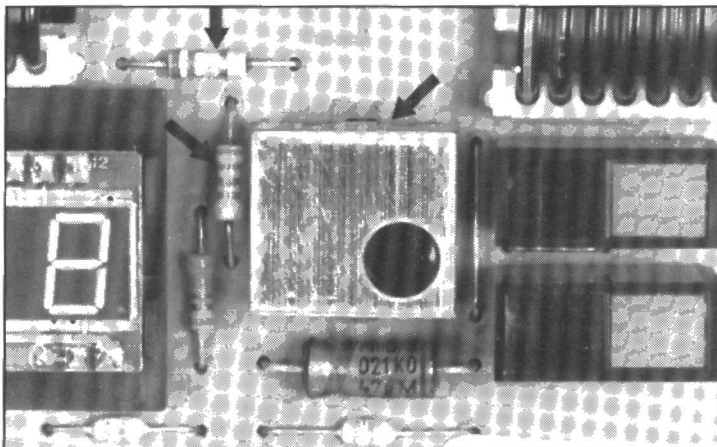

Fig. 17. Where to fit the IR receiver and extra resistors (arrowed).
The display board has space (to the right of the display) for an infra-red (IR) remote control receiver: an option that is strongly recommended. Sony's Type BX1407 is particularly suitable; Sharp's GP1U5 can also be used, but this has slightly different connections. Finally, two resistors, 22 k $\Omega$  and 3.3  $\Omega$  respectively, must be added as shown in Fig. 17. This arrangement will allow remote control of the player by any Philips IR trans-